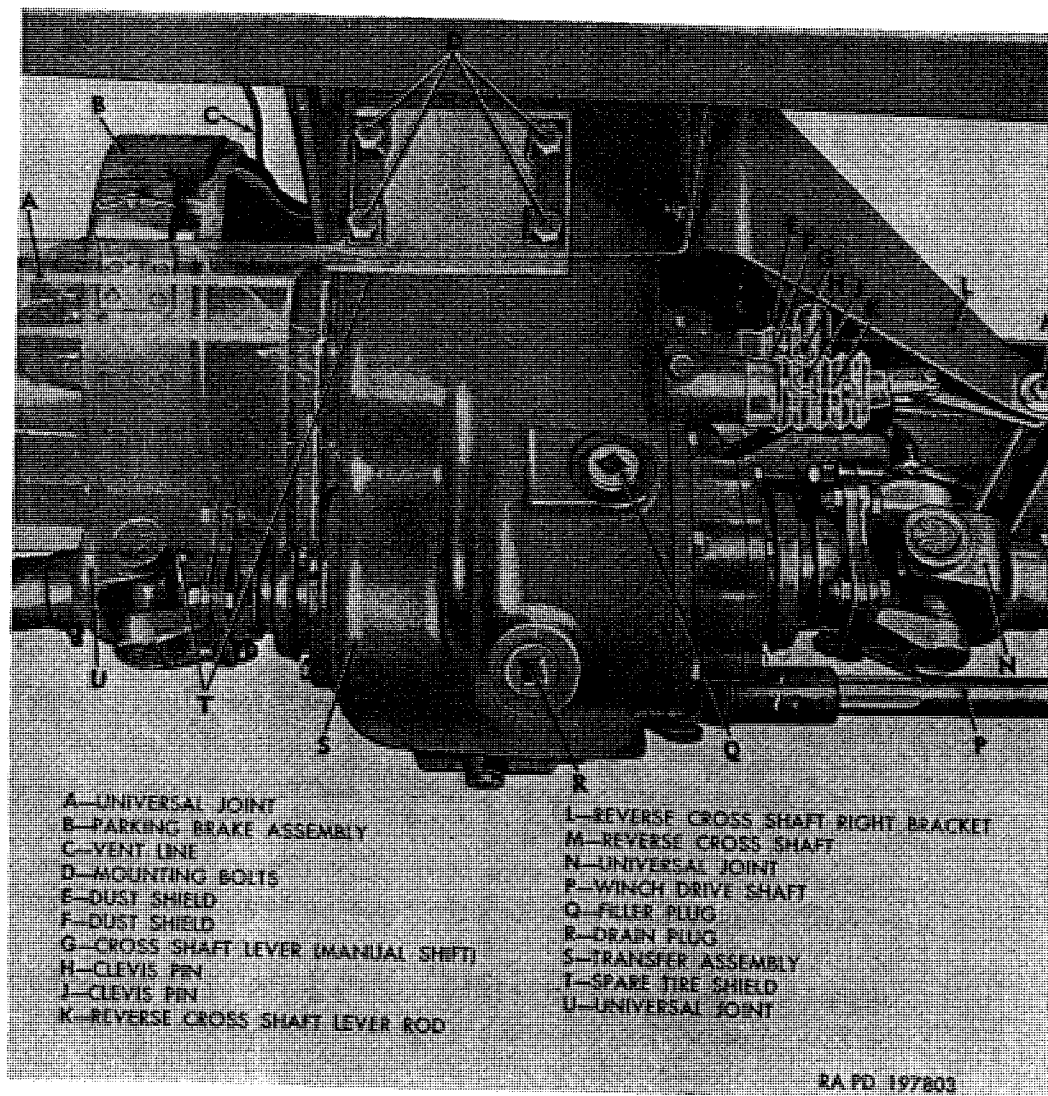

Figure 217. Transfer installed.
(1) Removal.
- (a) Remove clevis pins (BB and JJ) at each end of transfer reverse rod (M); then remove rod.
- (b) Remove front and rear dust shield clamps (U and X) on reverse shifter shaft dust shield (Z). Slide dust shield toward front.
- (c) Remove cotter pin from clevis pin (W), then remove clevis pin.
- (d) Remove cotter pin and plain washer from right end of reverse cross shaft (M, fig. 217).
- (e) Remove two bolts (P) attaching reverse cross shaft left bracket to transmission rear support. Remove reverse cross shaft and bracket assembly.
(2) Installation.
- (b) Slide right end of reverse cross shaft into right support bracket (L, fig. 217). Install two $\frac{5}{16}$ -24 x $\frac{7}{8}$ bolts (P) and $\frac{5}{16}$ -24 locknuts which attach reverse cross shaft left support bracket to transmission rear support. Tighten locknuts to $9\frac{1}{2}$ to 13 pound-feet torque.
- (c) Place $\frac{17}{32}$ -inch plain washer on right end of reverse cross shaft; then install $\frac{1}{8}$ x $\frac{7}{8}$ cotter pin through end of reverse cross shaft (M, fig. 217).
- (d) Connect transfer reverse rod (M) to transmission shift lever (K) with $\frac{3}{8}$ -inch clevis pin (JJ). Install $\frac{3}{32}$ x $\frac{5}{8}$ cotter pin through end of clevis pin. Do not connect adjustable end of rod at this time.
- (e) Adjust forward and reverse shift linkage (par. 202*c*); then install $\frac{3}{8}$ -inch clevis pin (BB). Secure clevis pin with $\frac{3}{32}$ x $\frac{5}{8}$ cotter pin.
- (f) Position reverse shifter shaft dust shield (Z) over clevis yoke and shifter shaft; then install and tighten front and rear dust shield clamps (U and X).
(fig. 217)